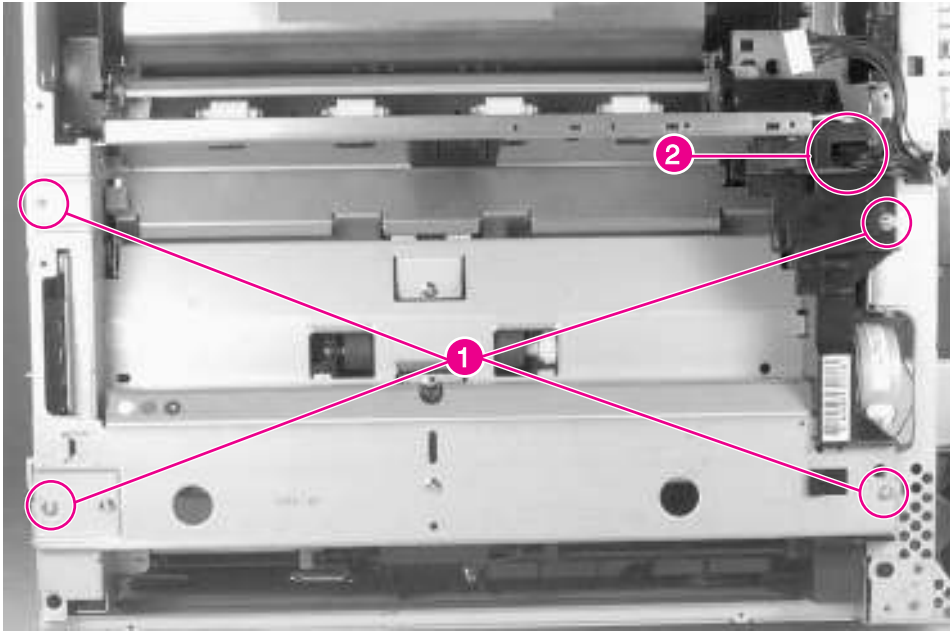

Figure 6-40 Paper Input Unit
- Paper Input Unit (PIU) (see figure 6-40 on page 206)
- 5 Remove 4 screws (figure 6-40, callout 1).
- 6 Slide the assembly out from the chassis approximately 3 inches, and unplug the connector inside the right end (figure 6-40, callout 2).